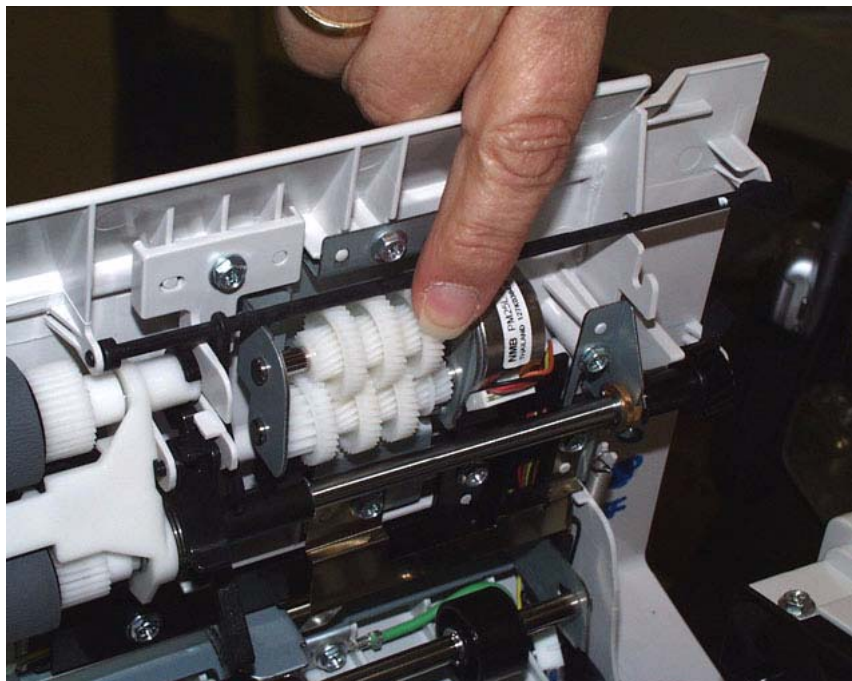

Figure 2 Rotate the gear to extend the Retard Roll
3. To remove the Nudger Roll rotate the inboard gear of the Torque Limiter until the Nudger Roll is fully extended. (Figure 2)